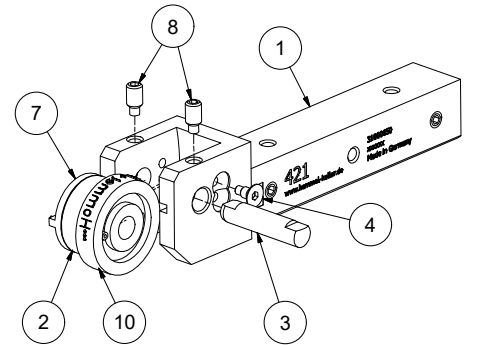
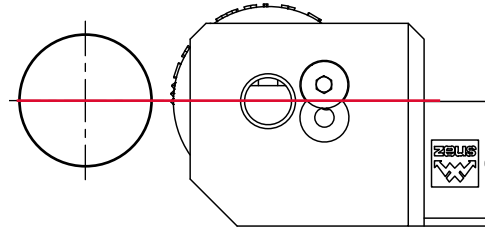
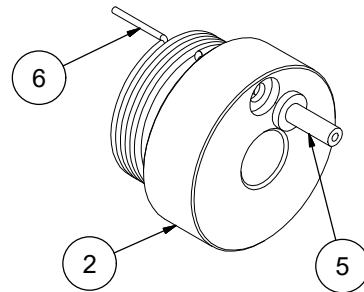
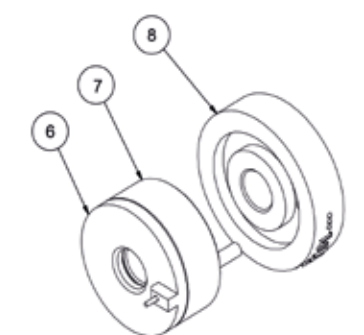

Figure 7: Assembly of marking roll unit
Figure 8: Marking roll positioning
Figure 5: Spring housing assembly
Figure 6: Assembly of marking roll
With use of the RIGHT spring, turn the marking roll (Fig. 7, pos. 10) until the driving pin (Fig. 5, pos. 5) is above the counterbore of the holder (cf. Fig. 7). With use of the LEFT spring, the marking roll must be turned CCW.
If the correct position has been reached, hold the marking roll in this position and screw in the stop screw (Fig. 7, pos. 4) in the threaded hole of the holder.
The first starting point of the marking roll (Fig. 7, pos. 10) must be on the centre height (top edge shank edge) of the base holder (Fig. 7, pos. 1) (cf. Fig. 8).
First turn the marking roll (Fig. 7, pos. 10) by hand CCW to the mechanical stop. When you let go of the marking roll, it must return to the starting position of the marking. Now turn the marking roll slightly. During this movement the marking roll must again spring back to the starting position on its own.
For removal of the marking roll (Fig. 7, pos. 10), follow the instructions starting with no. 7 in reverse sequence. For a tool version with a different spring, adapt the procedure accordingly. Pay special attention to the rotary direction of the roll!
Insert the selected spring (Fig. 5, pos. 6) with the short side first into the spring housing (Fig. 5, pos. 2) and position the driving pin (Fig. 5, pos. 5) on the arm of the spring (cf. Fig. 5).
Slide the marking roll (Fig. 6, pos. 8) onto the mounted assembly so that the driving pin (Fig. 5, pos. 5) is guided in the groove of the marking roll (Fig. 6, pos. 8). Then, fit the fixing disc (Fig. 6, pos. 6) with the smooth side first on the protruding spring arm (cf. Fig. 6).
Slide the complete marking roll unit (incl. assembled spring housing) into the groove of the base holder (Fig. 7, pos. 1). During this process, insert the fixing disc (Fig. 7, pos. 7) into the corresponding recess. Then, centre the complete unit with the axle pin (Fig. 7, pos. 3) and secure with the threaded pins (Fig. 7, pos. 8). In the process, the positioning of the planar surface of the axle pin must be observed.